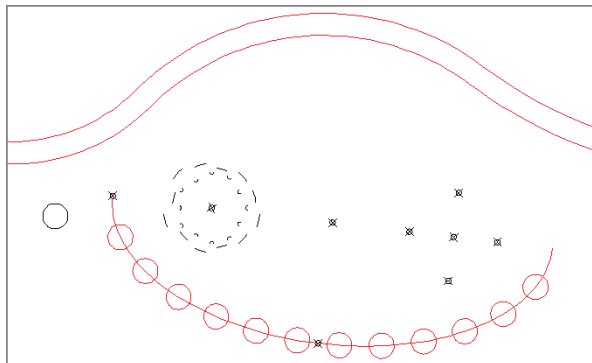

FIGURE 5.11 Dividing an elliptical arc with blocks
9. Type **13** (for the number of segments), and press Enter. The **DIVIDE** command always creates one less point or block than the number of segments into which the object is divided. Twelve "shrubs" appear along the elliptical arc (see Figure 5.11).